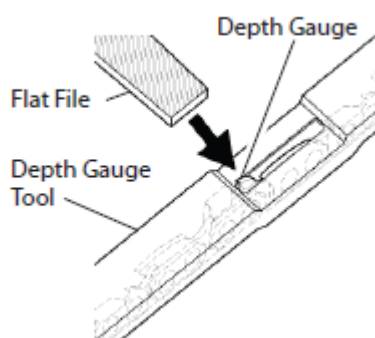

Fig.17
1. Place depth gauge tool (.025") firmly across top of two cutters. Make sure depth gauge enters slot in depth gauge tool (see **Fig.17**).